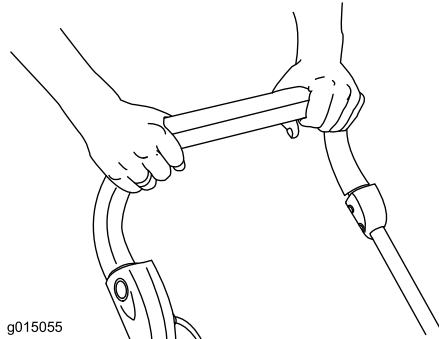

Figure 11
5. Hold the control bar to the handle and release the button (Figure 11).